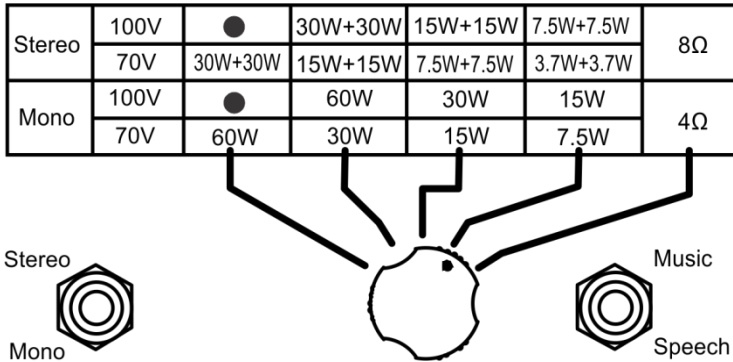

Figure 8: Adjust Tap Selector
5. Adjust the speaker to the appropriate tap setting (see Figure 8).